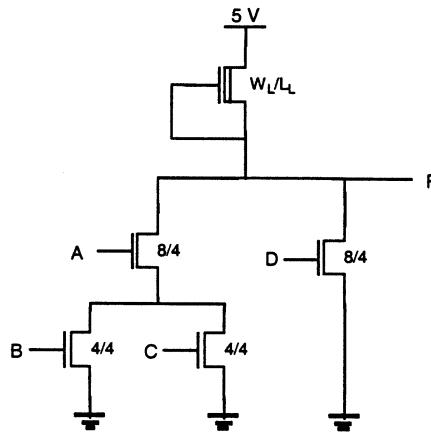

Figure P7.10
- 7.10 Consider the circuit drawn in Fig. P7.10.